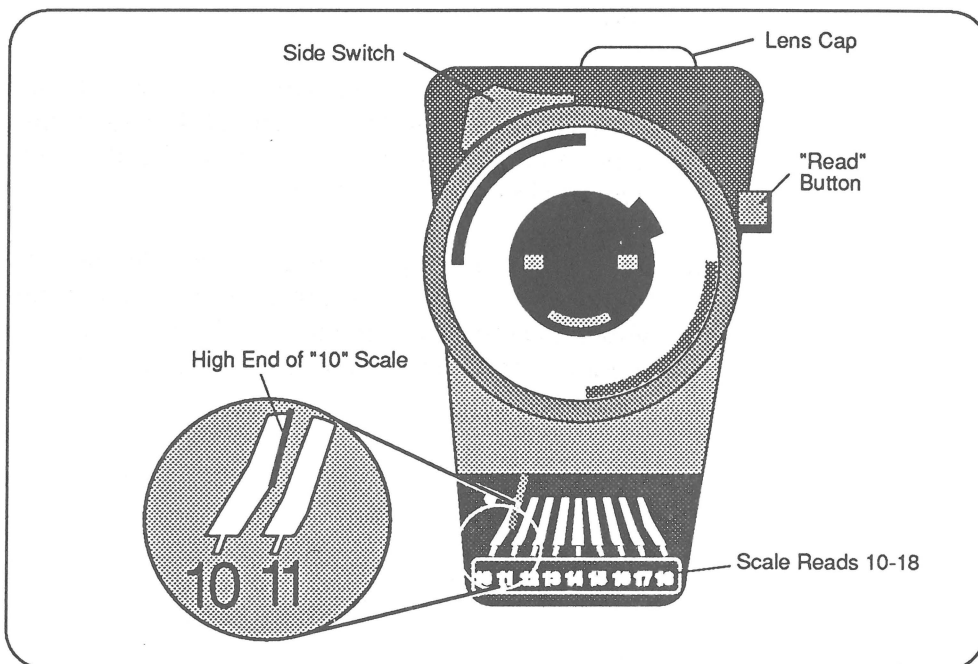

Figure 3-19 Using the Sekonic Light Meter
14. **Figure 3-19.** Set the light meter so that the lower scale reads 10 through 18. Refer to "Using Light Meter to Measure Luminance" below for more information.